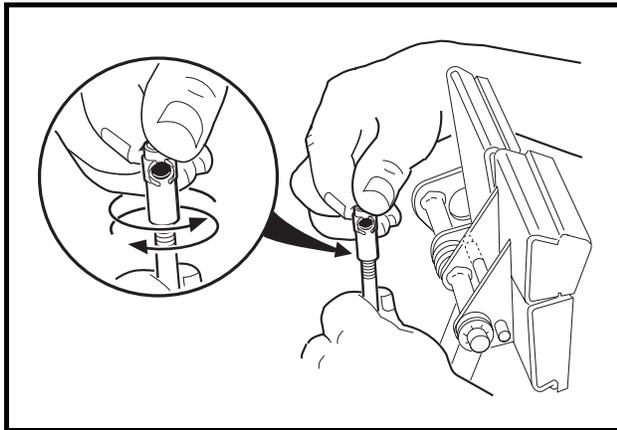

Figure 5-16 Brake Rod Adjustment
- 3.6. If ratchet/pawl engagement must be adjusted, disconnect the ball joint at the top of the brake rod and rotate the ball joint sleeve clockwise to increase engagement or counterclockwise to decrease engagement. Reconnect ball joint (Figure 5-16, Page 5-14).